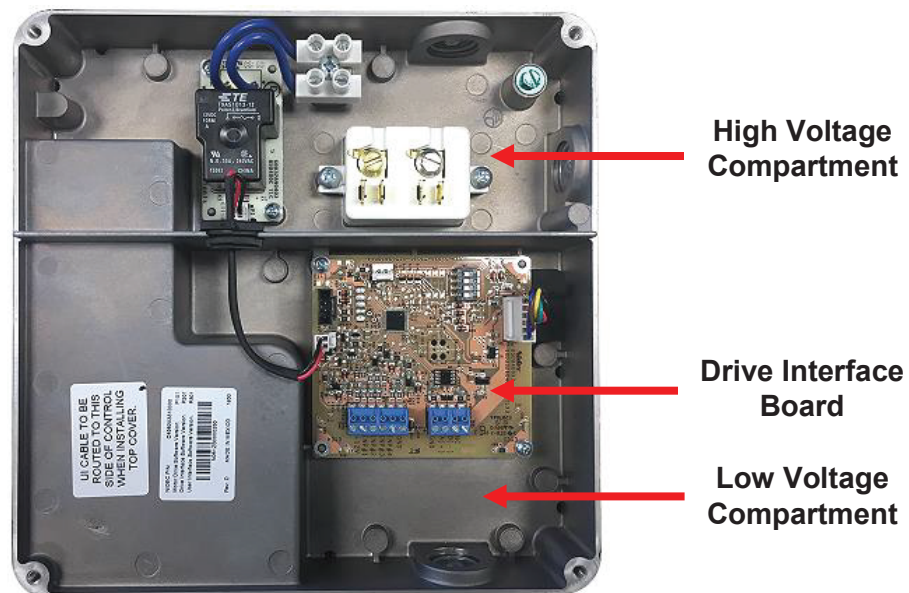

Figure 1 – High and Low Voltage Compartments
1. Remove the four (4) slotted head hex washer screws securing the User Interface Cover to the wiring compartments (Figure 1). Set the cover aside.
Input power and control signals are via conduit connections. There are two compartments: See Figure 1 on page 10.